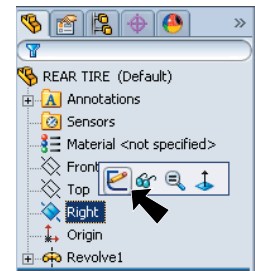
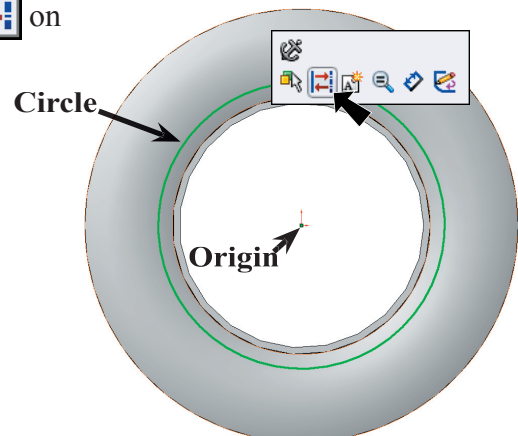

Fig. 12
Fig. 13
Step 1. Click **Right**  (plane) in the Feature Manager and click **Sketch**  from the Content toolbar, **Fig. 12**.
Step 3. Click **Circle**  (S) on the Sketch toolbar.
Step 4. Draw a circle starting at the Origin , **Fig. 13**.
Step 5. Click circle and click **Construction Geometry**  on the Content menu, **Fig. 13**.